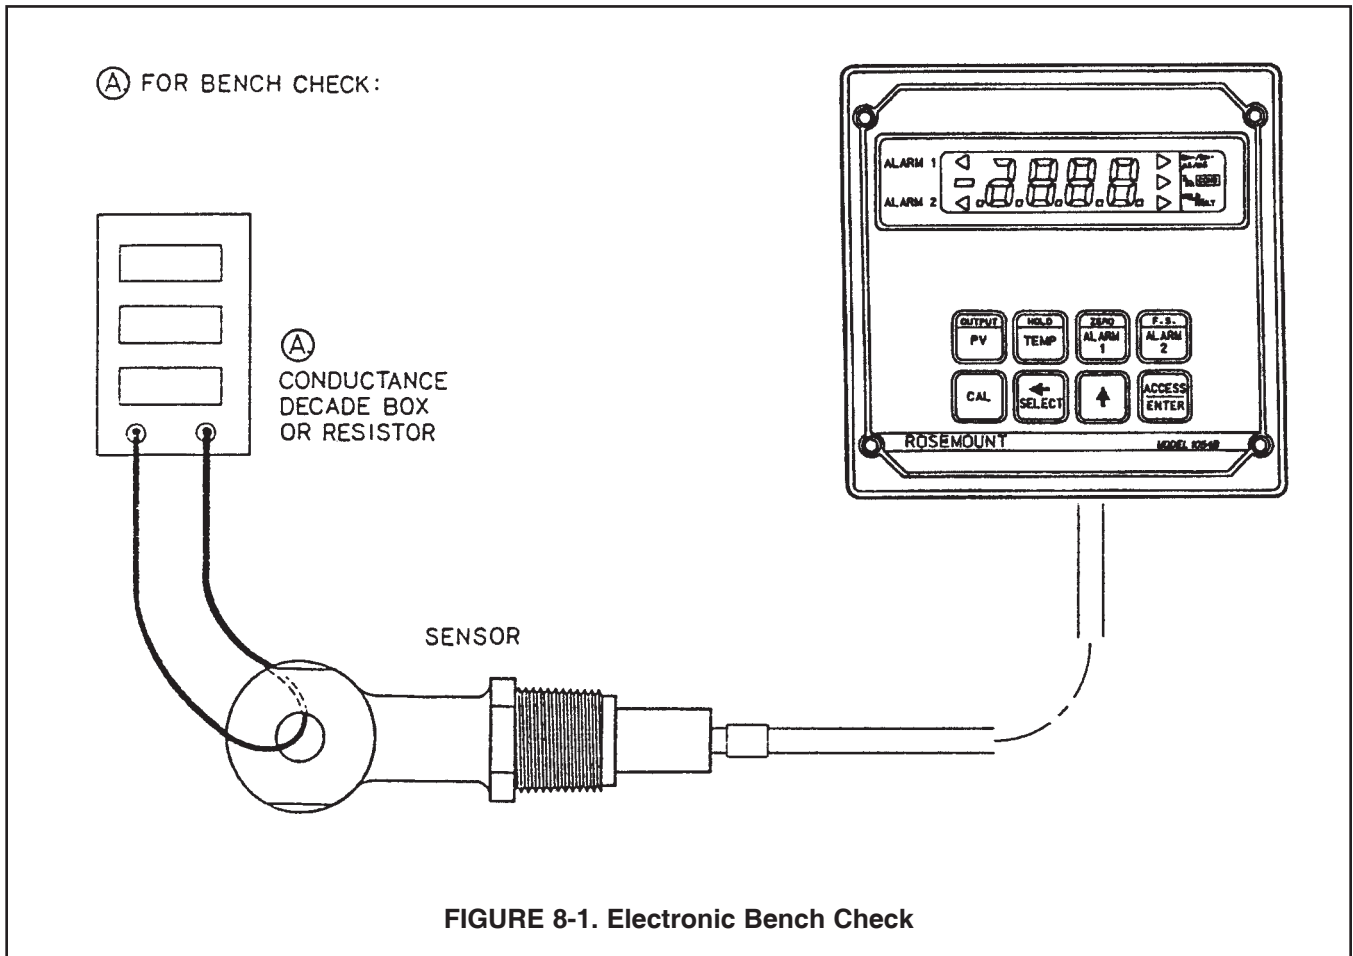

FIGURE 8-1. Electronic Bench Check
8.2.10 Electronic Bench Check. Set temperature compensation to oFF. Set to 25°C (Refer to Section 4.4.1). A decade box or resistor is wired in series with a wire looped through the toroids as shown in Figure 8-1. Set cell constant to 1.0.